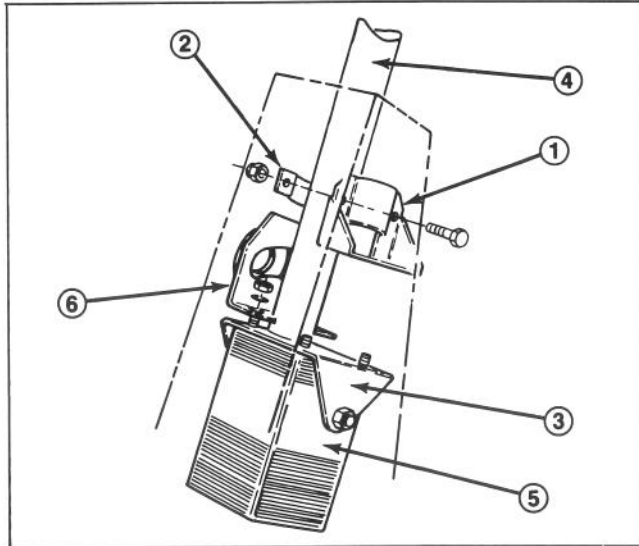

Figure 1
1. Remove capscrew securing column support to mounting bracket (Fig. 1). Discard screw.
2. Loosen clamp half mounting screws securing column support to steering column (Fig. 1).
3. Slide steering column upward until valve mounting studs are positioned into mounting bracket and pivot plate (Fig. 1).
4. Secure valve to mounting bracket and pivot plate with (2) locknuts (5/16-18) and (2) flat washers (3/8 I.D. x 7/8 O.D.).
6. Secure valve to mounting bracket and column support with (2) locknuts (5/16-18) and (2) flat washers (3/8 I.D. x 7/8 O.D.).